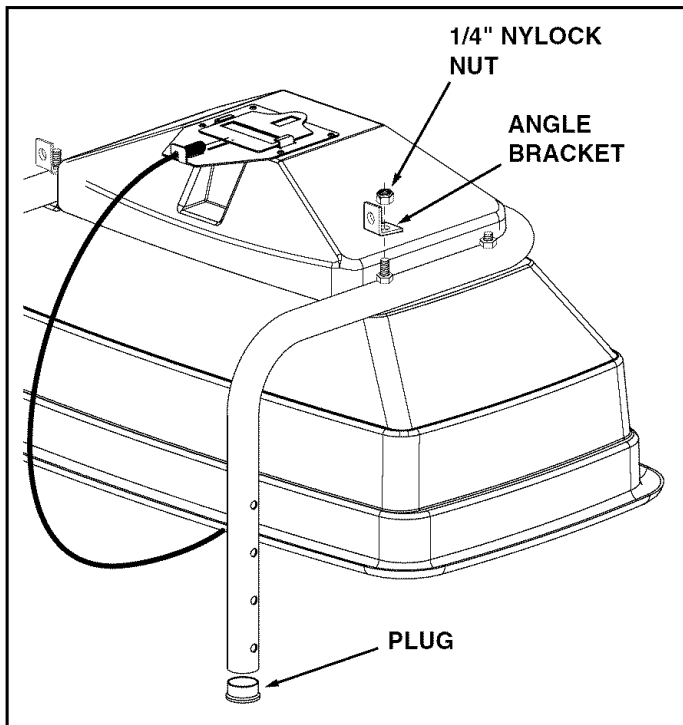

FIGURE 1
1. Turn the spreader upside down as shown in figure 1.
2. Press the two plugs into the ends of the frame tube. See figure 1.
3. Assemble the two angle brackets and two 1/4" nylock nuts onto the ends of the longer bolts that are already assemble to the frame tube. **Do not tighten yet.** See figure 1.